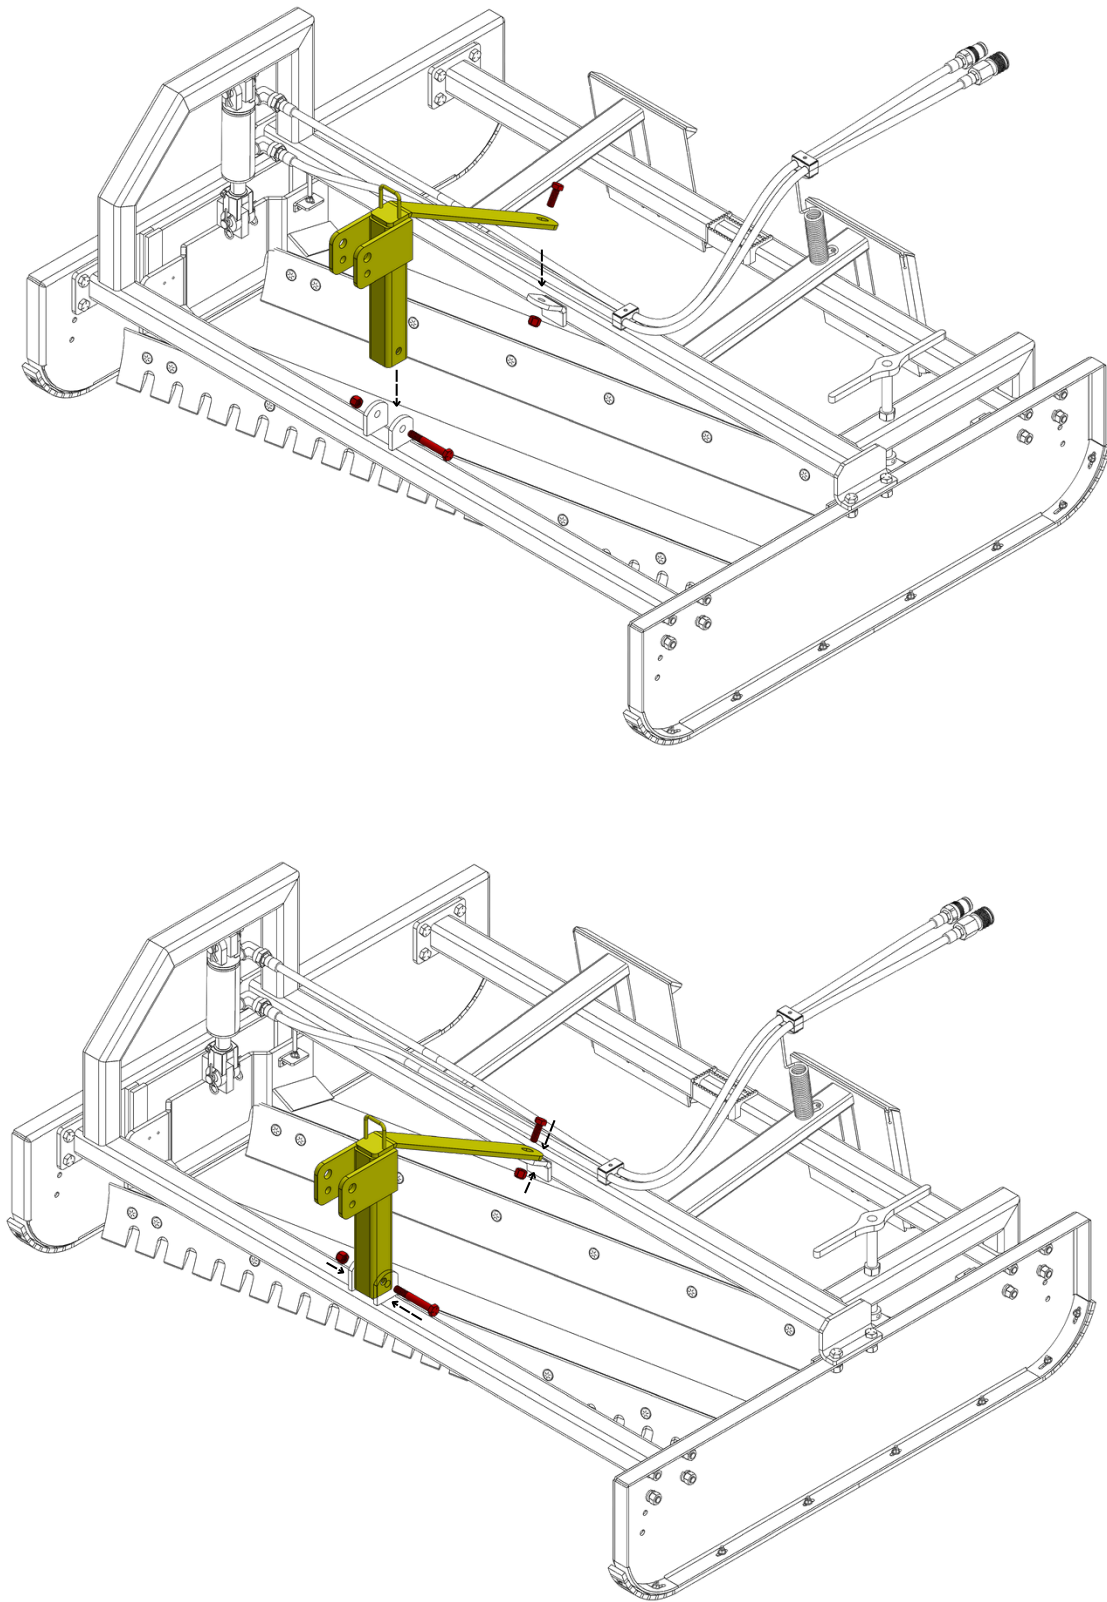

Fig. 9
- Place the **3-Point Tower** into position and attach using the hardware provided (fig 9.).